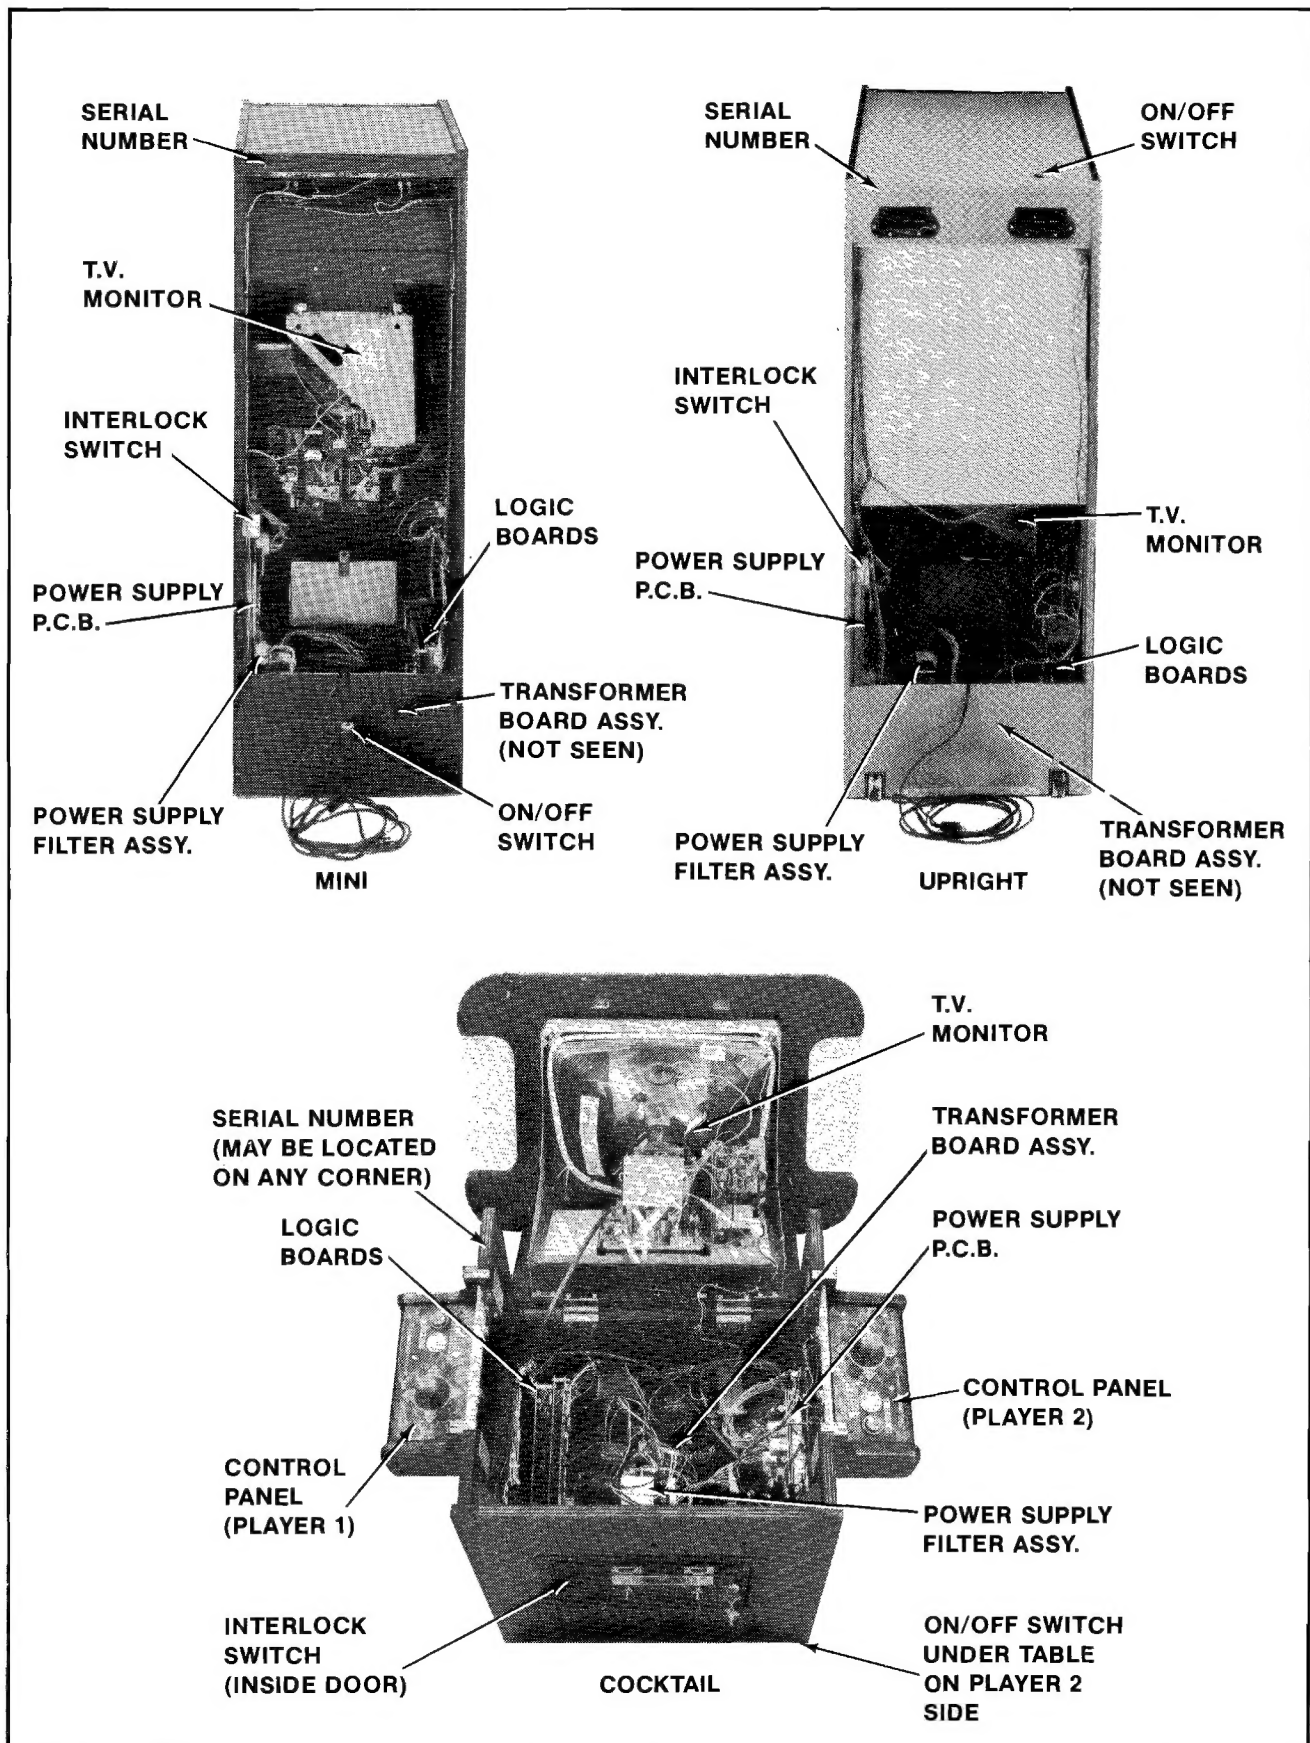

Figure 2-1 Location of Serial No., Interlock Switch, On/Off Switch, & Major Sub-Assys.
5. Open the cabinet and inspect the inside of the game for any signs of damage. See Figure 2-1.
- ☐ Make sure all printed circuit boards (P.C.B.'s) are firmly seated in their connectors. See Figure 2-1. These connectors are also keyed. The P.C.B.'s will only go into them one way without being damaged.
- ☐ Note the location of the game's serial number. See Figure 2-1.
- ☐ Check all major subassemblies to be sure they are mounted securely. These are called out in Figures 2-1 & 2-2.
3. Interlock and power ON/OFF switches. See Figure 2-1.
The game ON/OFF switches for all models are located as shown in Figure 2-1. Turn the game on and allow it to warm up a few minutes.